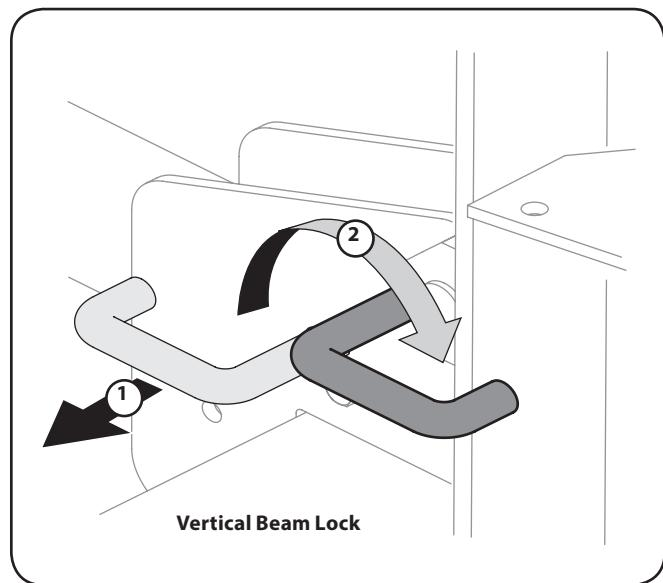

Figure 6-2
- b. To lock the beam in the vertical position, pull out on the vertical beam lock and rotate it to secure the beam. See Figure 6-2.